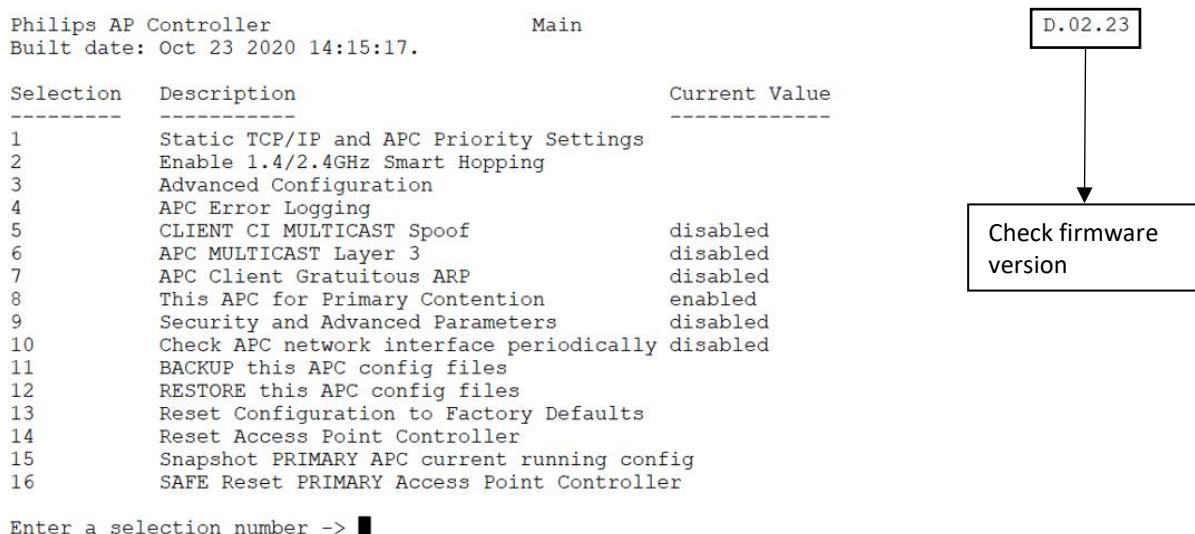

Figure 36: APC Serial Interface Main Menu
5. Press Enter twice on the PC and enter the APC console password when prompted. The APC serial interface Main Menu (Figure 36) appears: